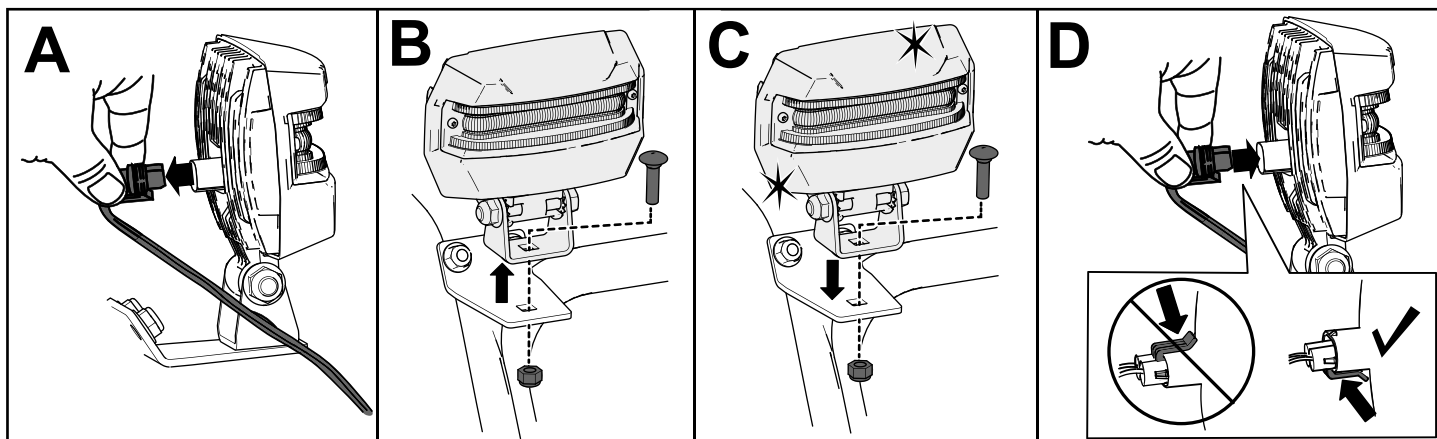

Figure 41
1. Remove the headlight wire from the back of the headlight (A of Figure 41).
2. Remove the bolt and nut holding the headlight assembly onto the headlight bracket and then remove the old headlight assembly (B of Figure 41).
3. Secure the new headlight assembly onto the headlight bracket with the previously removed nut and bolt (C of Figure 41).
4. Insert the headlight wire straight into the back of the headlight until it is securely in place (D of Figure 41).